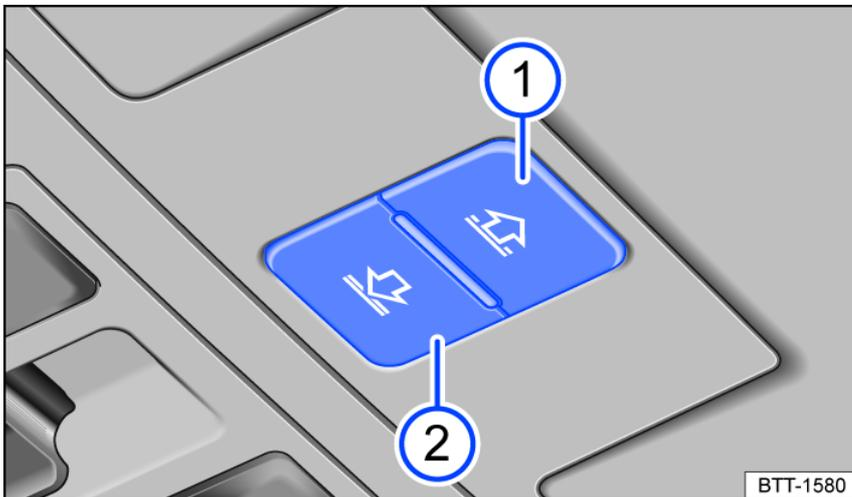

Fig. 106 In the headliner: buttons for controlling the sunshade.
The *fig. 106* **1** and **2** buttons have two detents. In the first detent, the sunshade can be opened or closed either completely or partially.
- Within approximately five seconds after pinch protection is triggered, press and hold the *fig. 106*  button until the sunshade is completely closed.